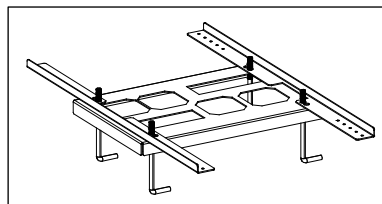

Figure 6
- Pour Pad Template Kits are available. The part numbers are listed on the product datasheet (section 9). See the Pour Pad Template Kit documentation for further details. The kit is shown in Figure 6.